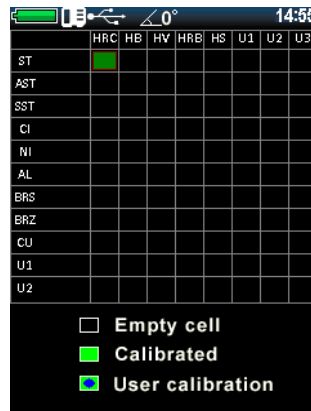

Figure 2.34 - Grading
1. To calibrate by two points, select <CALIBRATION> in the main menu (Fig. 2.34).